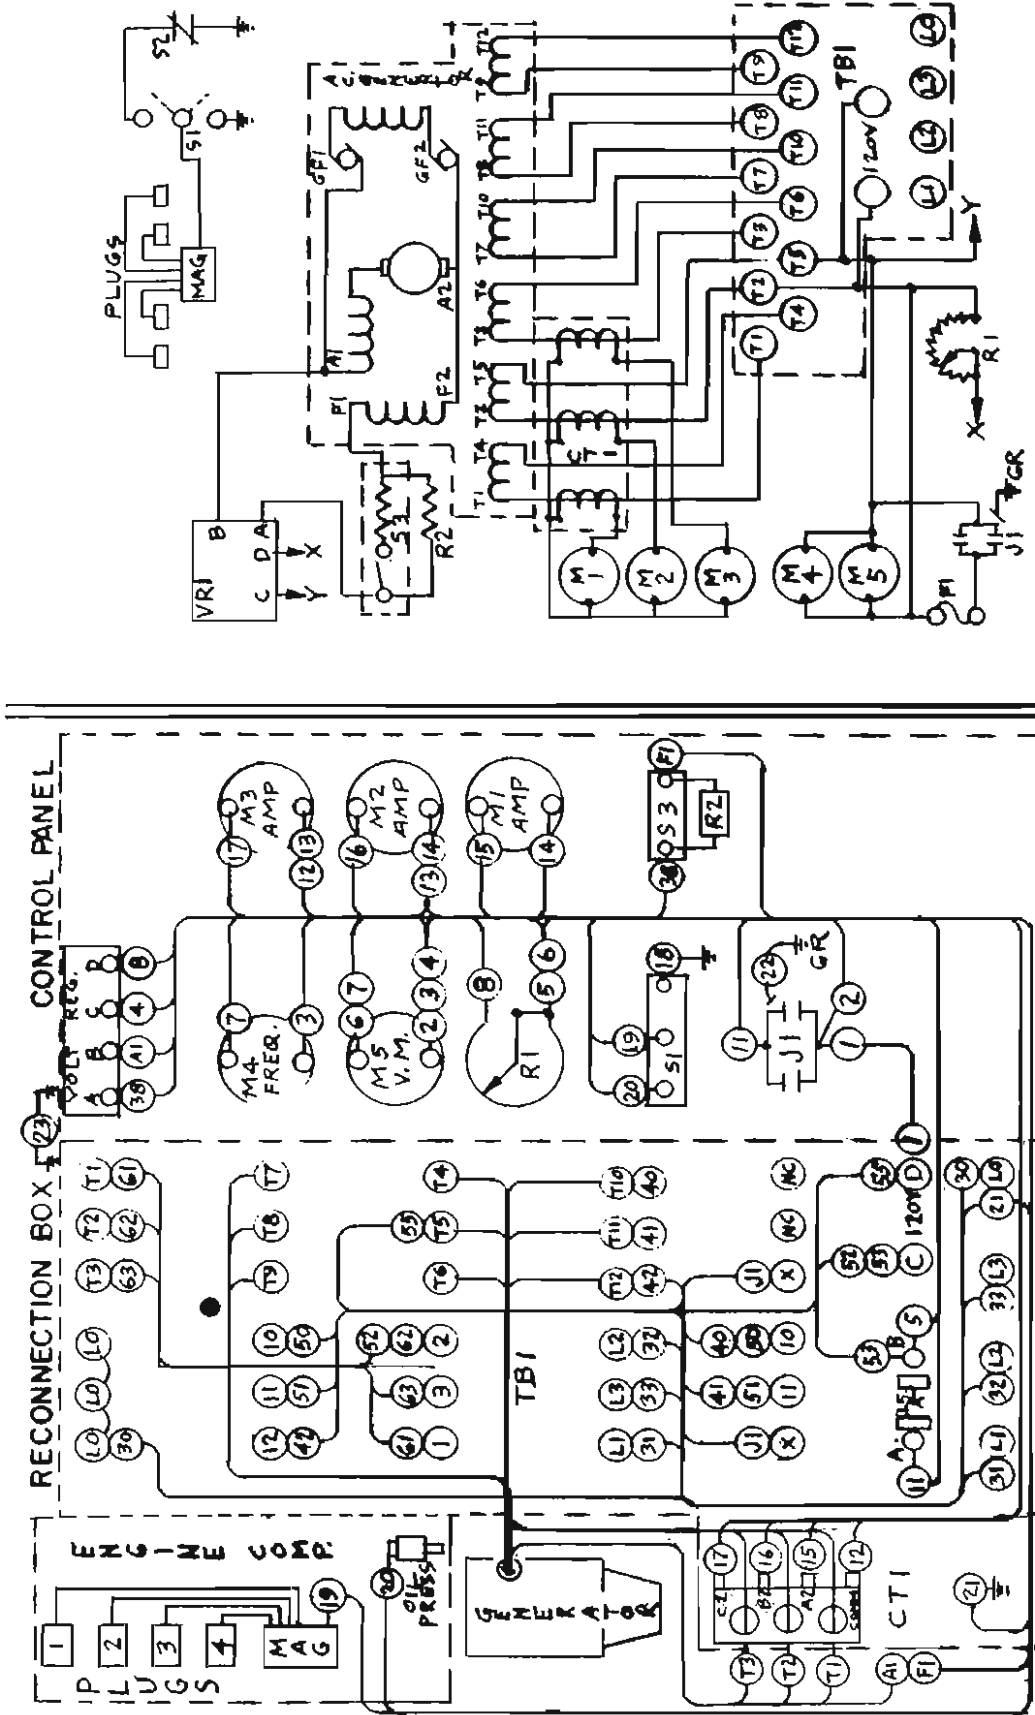

Figure 18. HOL-GAR Model GS-107-AC Wiring & Schematic Diagram (Plate 19235)
When trouble shooting the engine generator set follow a logical systematic method, utilizing your primary trouble shooting tools, the wiring diagram (see Fig. 18) and the functional information given for the various components (para. 11). Remember the basic function of the engine generator set is to produce power within its rated capacity (para. 3). To accomplish this liquid energy, the fuel is converted to mechanical energy (in the engine) which provides the drive power for the ac generator that produces the electrical power. To aid in the final overall performance of the unit, operational, regulation, and safety components and systems are added. With this in mind, functional disturbances can be categorized into operational, safety, regulation, mechanical drive power, and electric power groups. The trouble shooting tabulation (para. c.) is divided into the groups given and present typical troubles with probable cause and remedy.
b. To order parts give the Engine Generator Set Model Number, the part number and the nomenclature shown in the illustration. The wiring diagram (Fig. 18) shows the relative position and gives the reference symbol (ie: TBI, CT-1 etc.) of the electrical